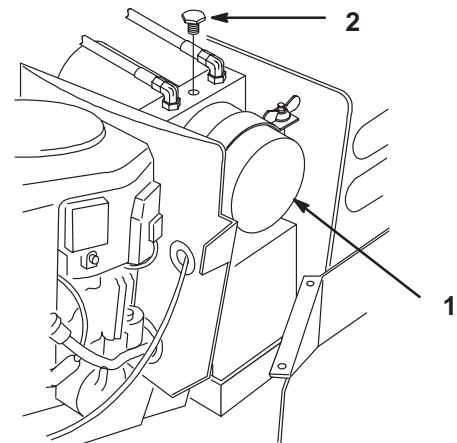

Figure 32
4. Remove the plug on top of the power lift pump (Fig. 32). Fluid should be level with the bottom of the hole.